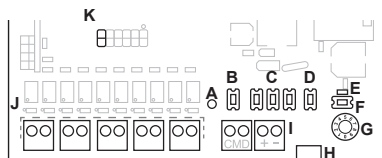

Fig.1
- 1.1.2 Select which type of switch will be connected (fig.1)